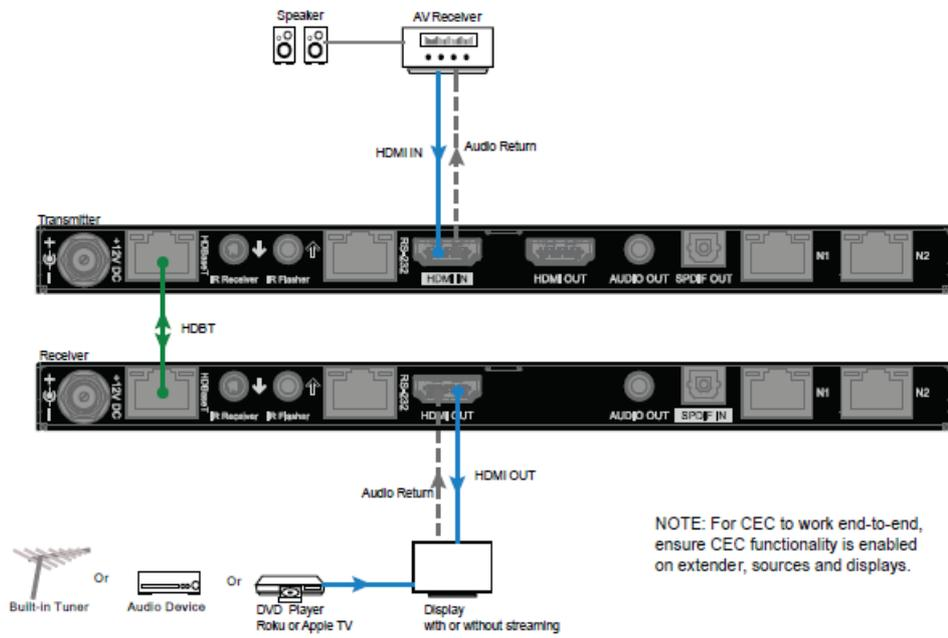

Figure 1: To return HDMI ARC from TV to AVR
- Set Pin1 of the receiver (RX) to “up”, ARC mode. RX HDMI ARC will be returned through HDBaseT link to TX connected AVR. In this case, AVR HDMI out is connected to TX HDMI IN. See Figure 1.